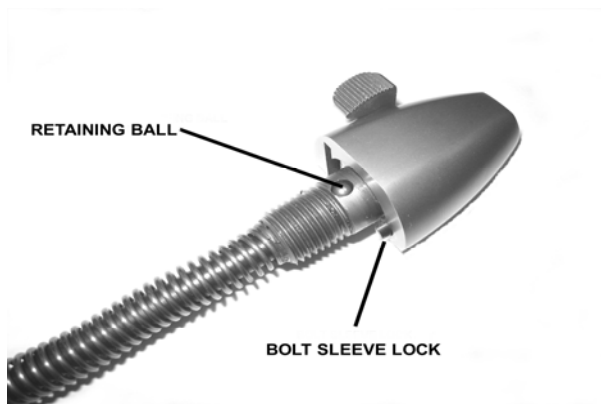

Fig. 7
1. Hold the bolt sleeve horizontally with the retaining ball hole “UP”. (*refer to Fig 7*)